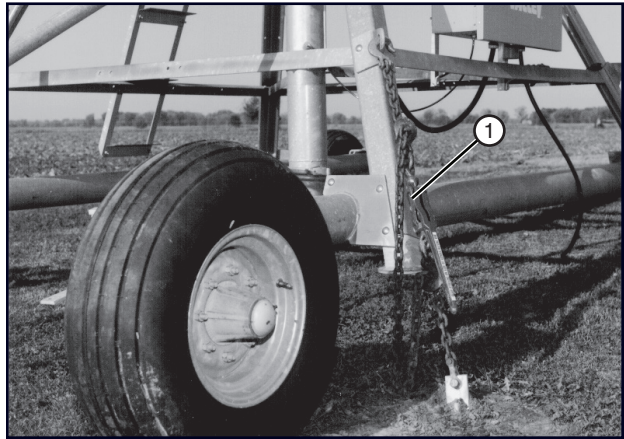

Figure 60-2 1. Load binder
9. Remove the load binders at each corner of the pivot. See figure 60-2.